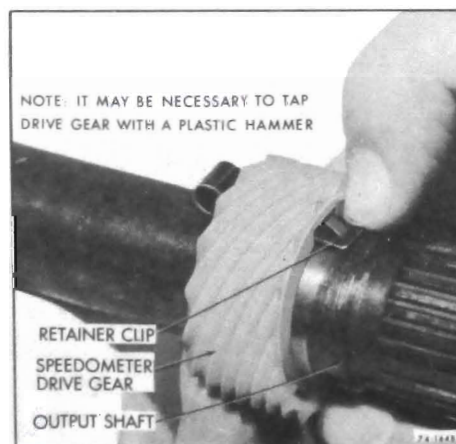

Figure 74-144
1. Depress retainer clip, then slide speedometer drive gear off output shaft. See Figure 74-144.